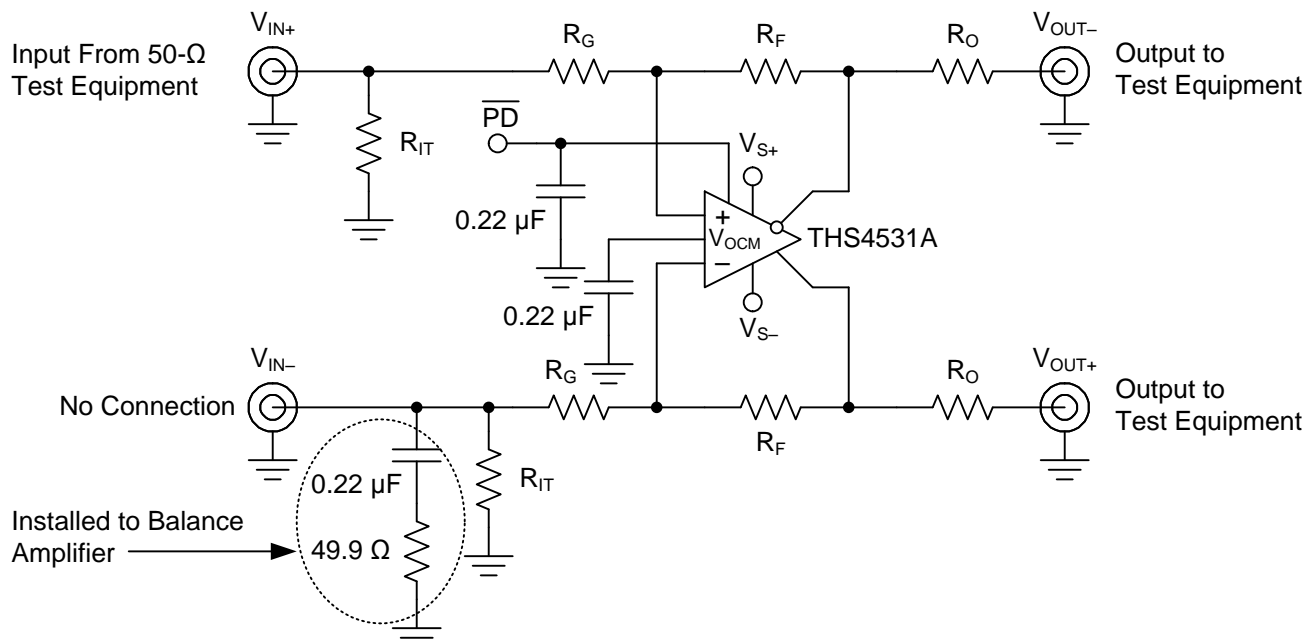
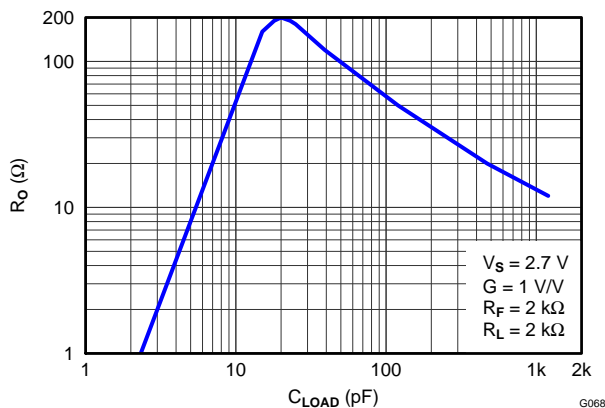
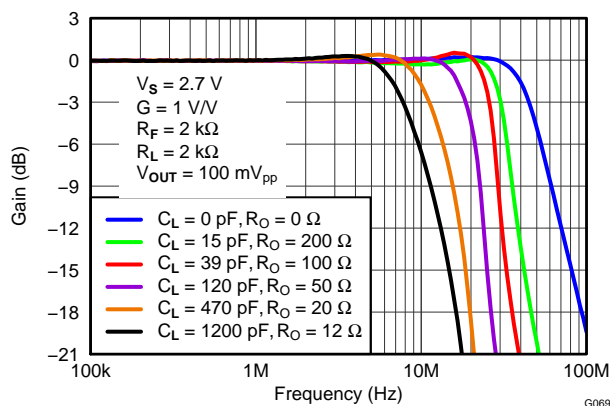

Figure 69. Slew Rate, Transient Response, Settling Time,  $Z_o$ , Overdrive Recovery,  $V_{OUT}$  Swing, and Turn-on/off Test Circuit
Figure 80. Recommended Series Output Resistor vs Capacitive Load for Flat Frequency Response
Figure 81. Frequency Response for Various RO and CL Values
The circuit shown in Figure 69 is used to measure slew rate, transient response, settling time, overdrive recovery, and output voltage swing. Turn on and turn off times are measured with 50 $\Omega$  input termination on the  $\overline{PD}$  input, by replacing the 0.22 $\mu$ F capacitor with 49.9 $\Omega$  resistor.
Inserting  $R_O$  will compensate the phase shift and restore the phase margin, but it will also limit bandwidth. The circuit shown in Figure 69 is used to test for best  $R_O$  versus capacitive loads,  $C_L$ , with a capacitance placed differential across the  $V_{OUT+}$  and  $V_{OUT-}$  along with 2k $\Omega$  load resistor, and the output is measure with a differential probe. Figure 80 shows the optimum values of  $R_O$  versus capacitive loads,  $C_L$ , and Figure 81 shows the frequency response with various values. Performance is the same on both 2.7V and 5V supply.
4. A series output resistor is recommended to be placed as near to the output pin as possible. See Figure 80 "Recommended Series Output Resistor vs. Capacitive Load" for recommended values given expected capacitive load of design.